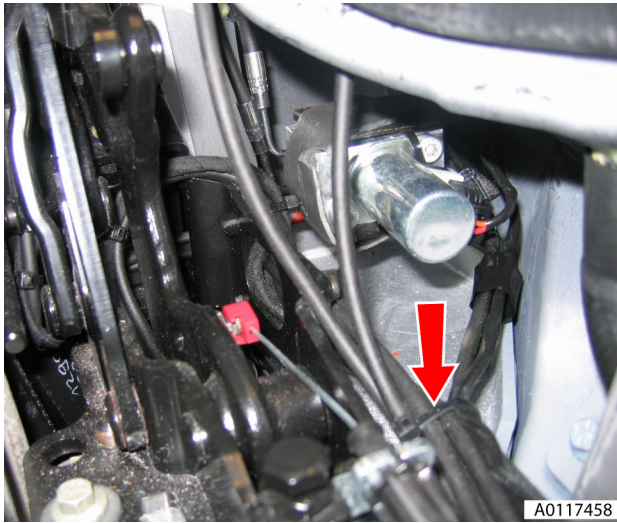

Fig. 22
41. Remove harness/pipe cable ties (see Fig. 22).